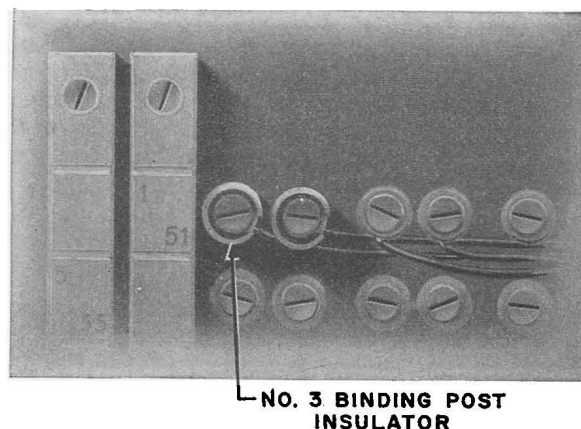

FIG. 15—USE OF NO. 3 BINDING POST INSULATORS
9.08 The No. 3 Binding Post Insulator (Brown) is used on binding posts of BD-type cable terminals (shown in Fig. 15).